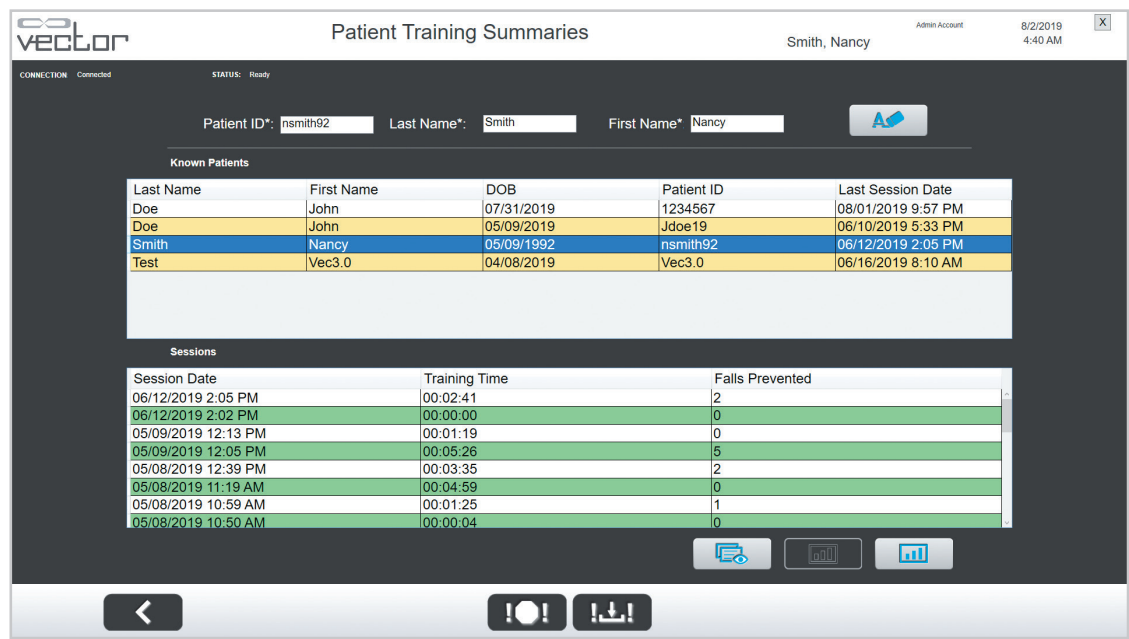

Figure 8-4: Sessions List
- 2. Once a patient has been selected, a list of their training sessions will appear in the Sessions List. See Figure 8-4.